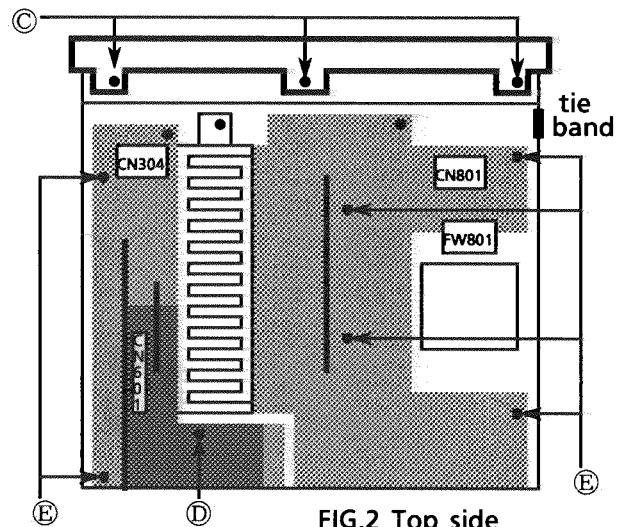

FIG.2 Top side
2. Remove 3 screws (K) on the bottom side and 3 screws (C) on the top side.(FIG.2,4)
2. Remove 5 screws (D) and (F).(FIG.2,3)
6. Remove 6 screws (E).(FIG.2)